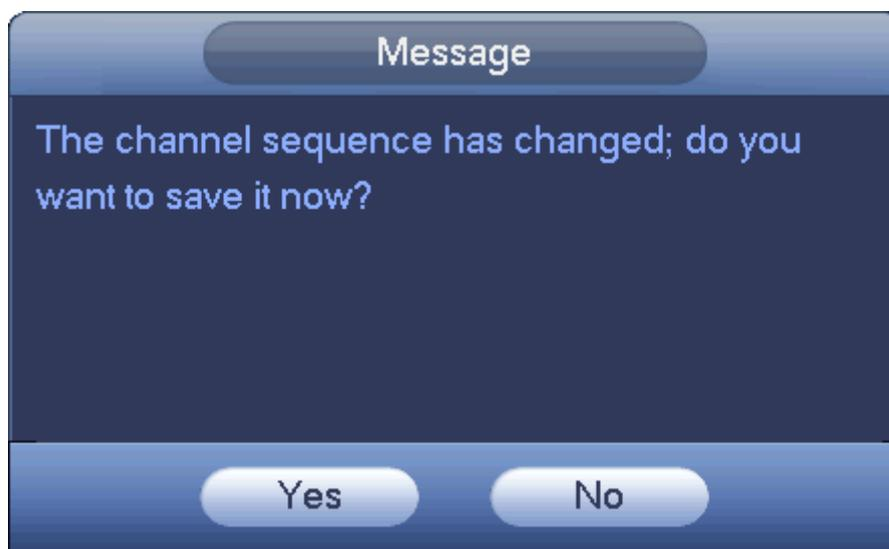

Figure 2-70
- After you change the channel sequence, click Cancel button or right click mouse, device pops up the dialogue box. See Figure 2-70.